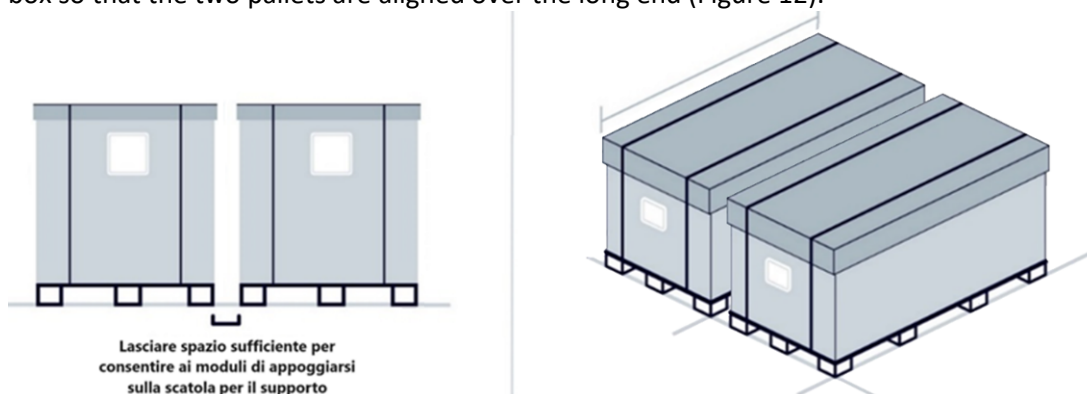

Figure 12: Boxes correct alignment.
3. Unstack the top box by using adequate tools, such as a forklift, and place it alongside the bottom box so that the two pallets are aligned over the long end (Figure 12).